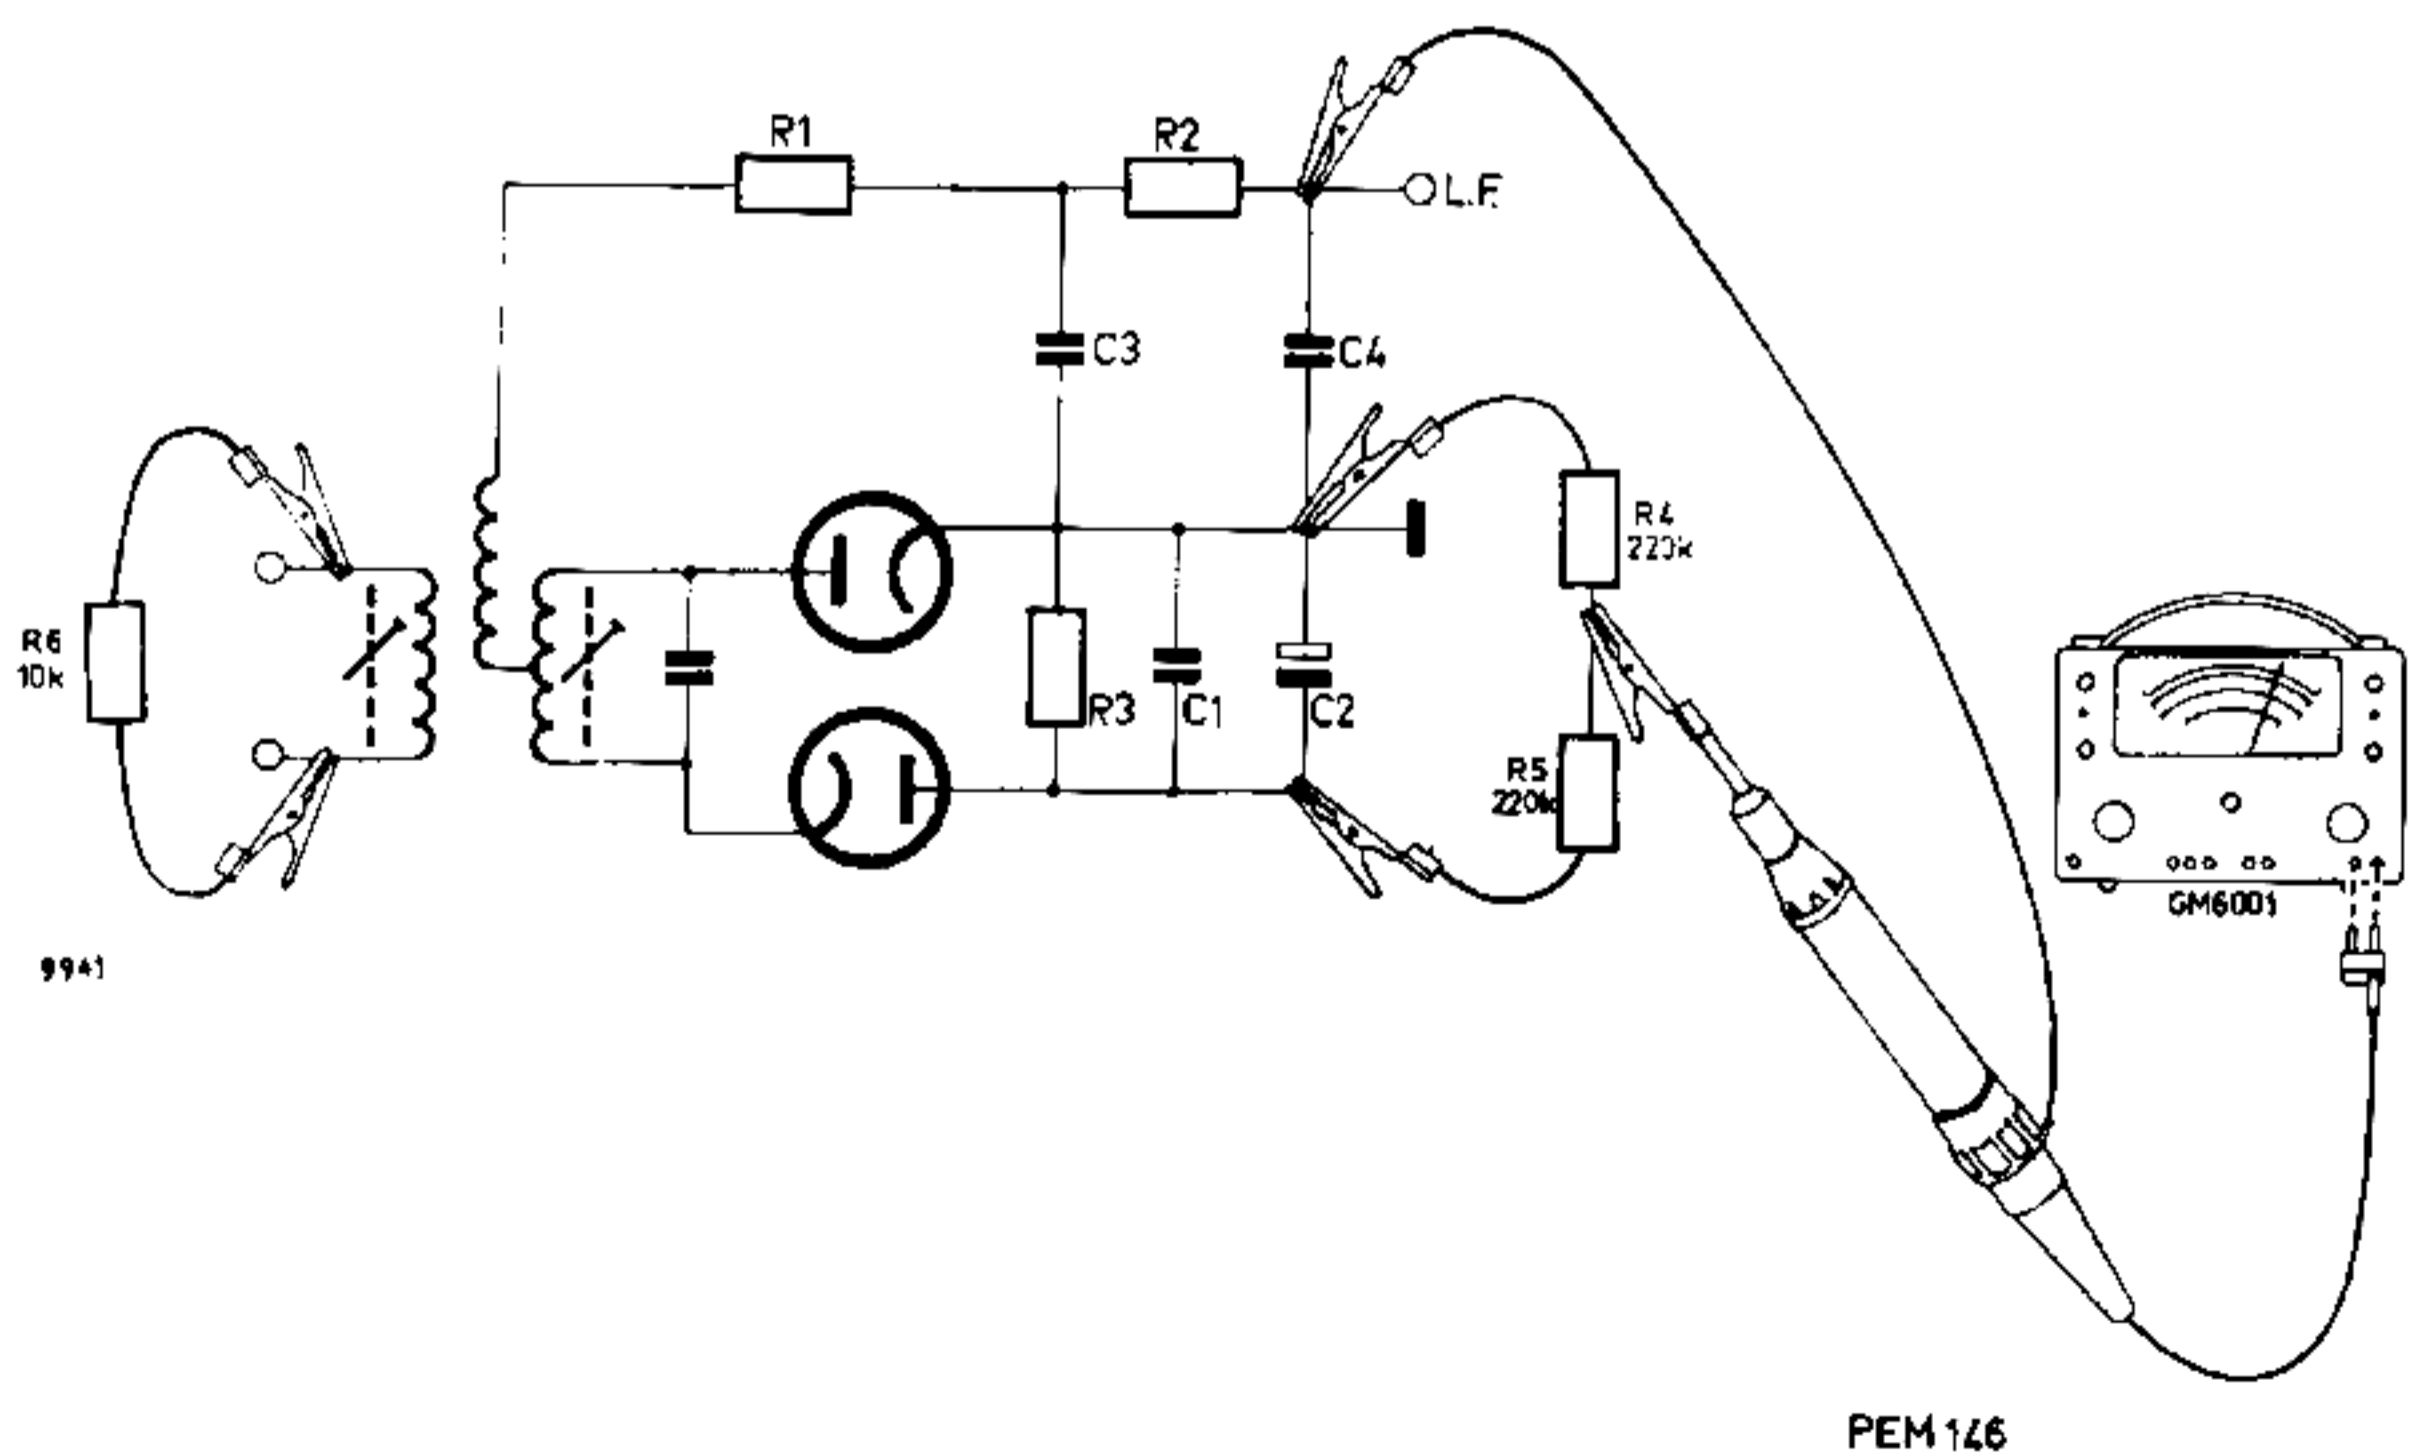

Fig. 16. Adjustment of the F.M. discriminator
Connect the valve voltmeter in accordance with Fig. 16. The two auxiliary resistors R4 and R5 may have a value of about $220\text{ k}\Omega$ and must be equal to one another as far as possible. For this purpose use should be made of 1 % resistors or two specially selected ones (check with an accurate ohmmeter or measuring bridge, e.g. GM 4144).
7. Terminate the primary circuit of the last I.F. band-pass filter with a resistor of approx. 10 k Ω (R6 in Fig. 16). Adjust the core of the secondary circuit to minimum deflection of the valve voltmeter (connected in accordance with Fig. 16).